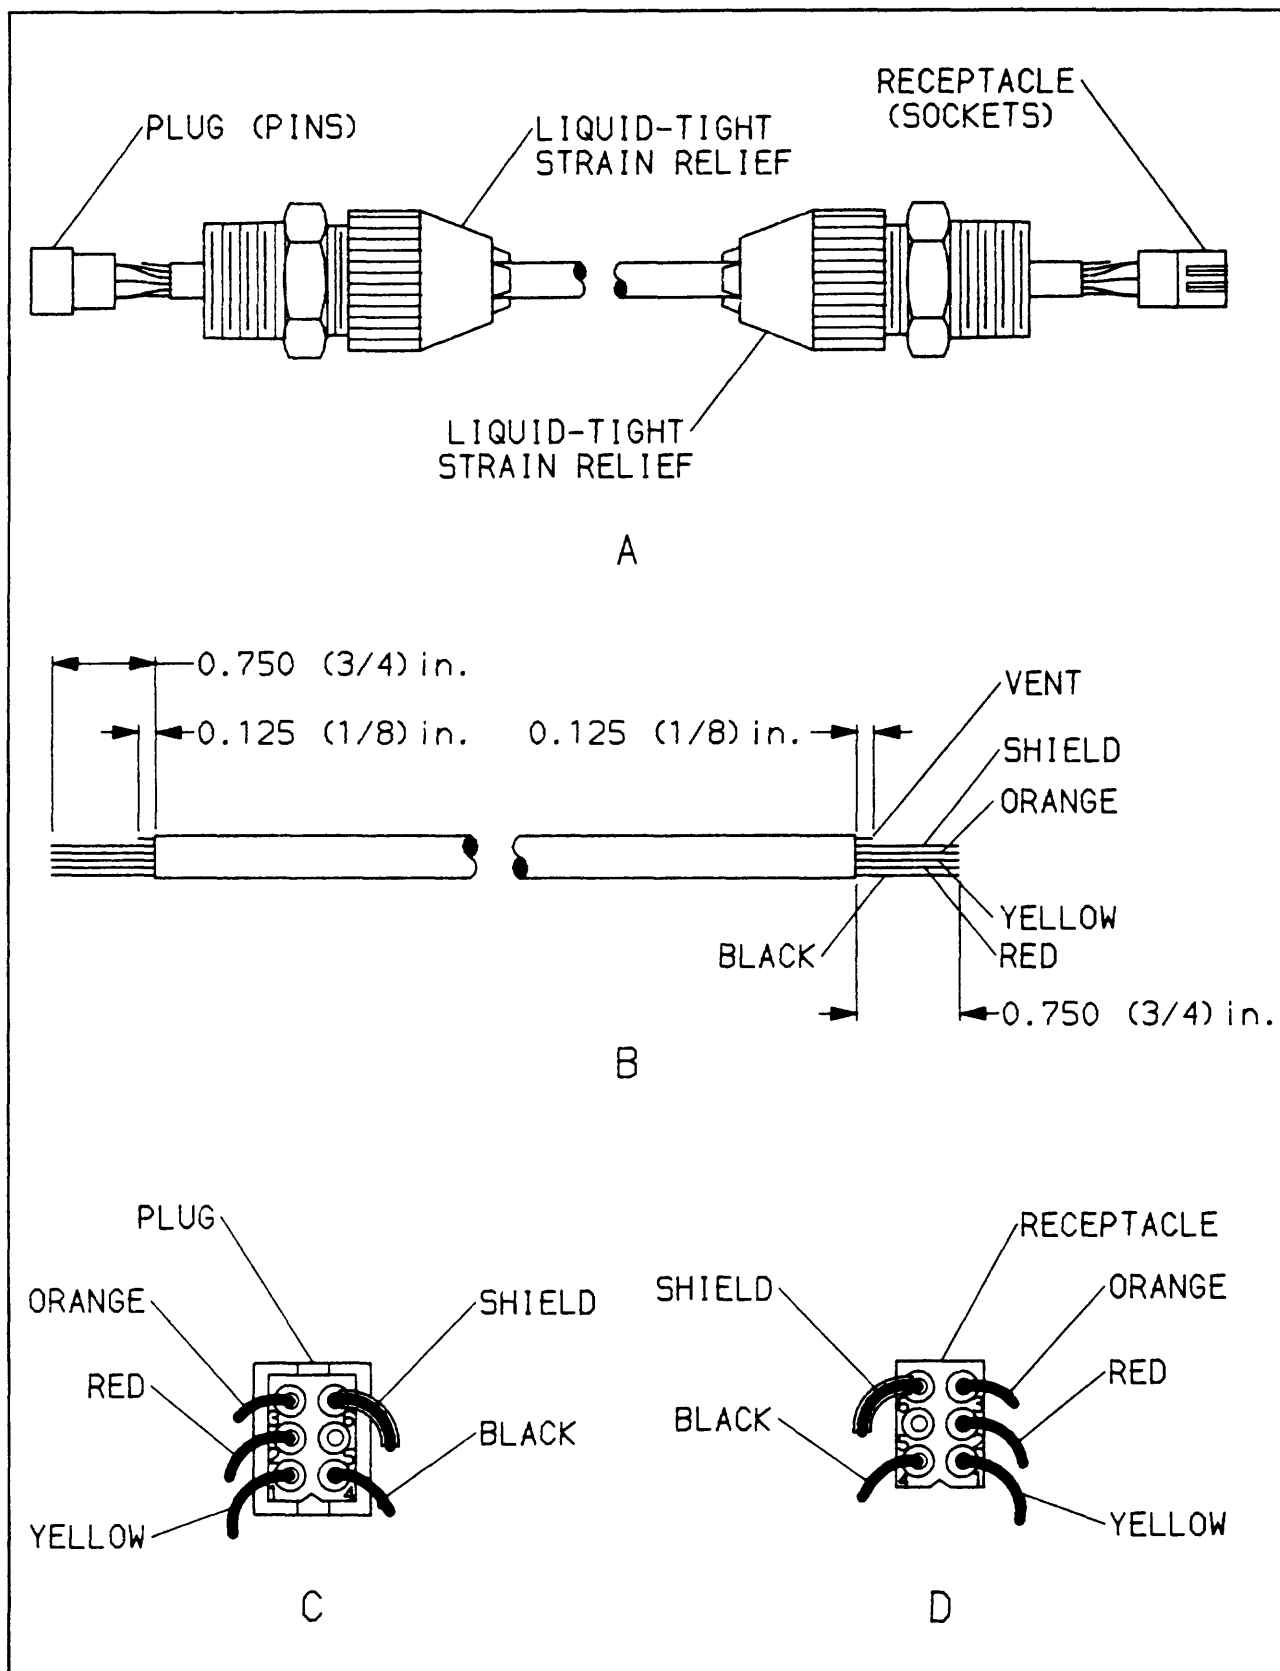
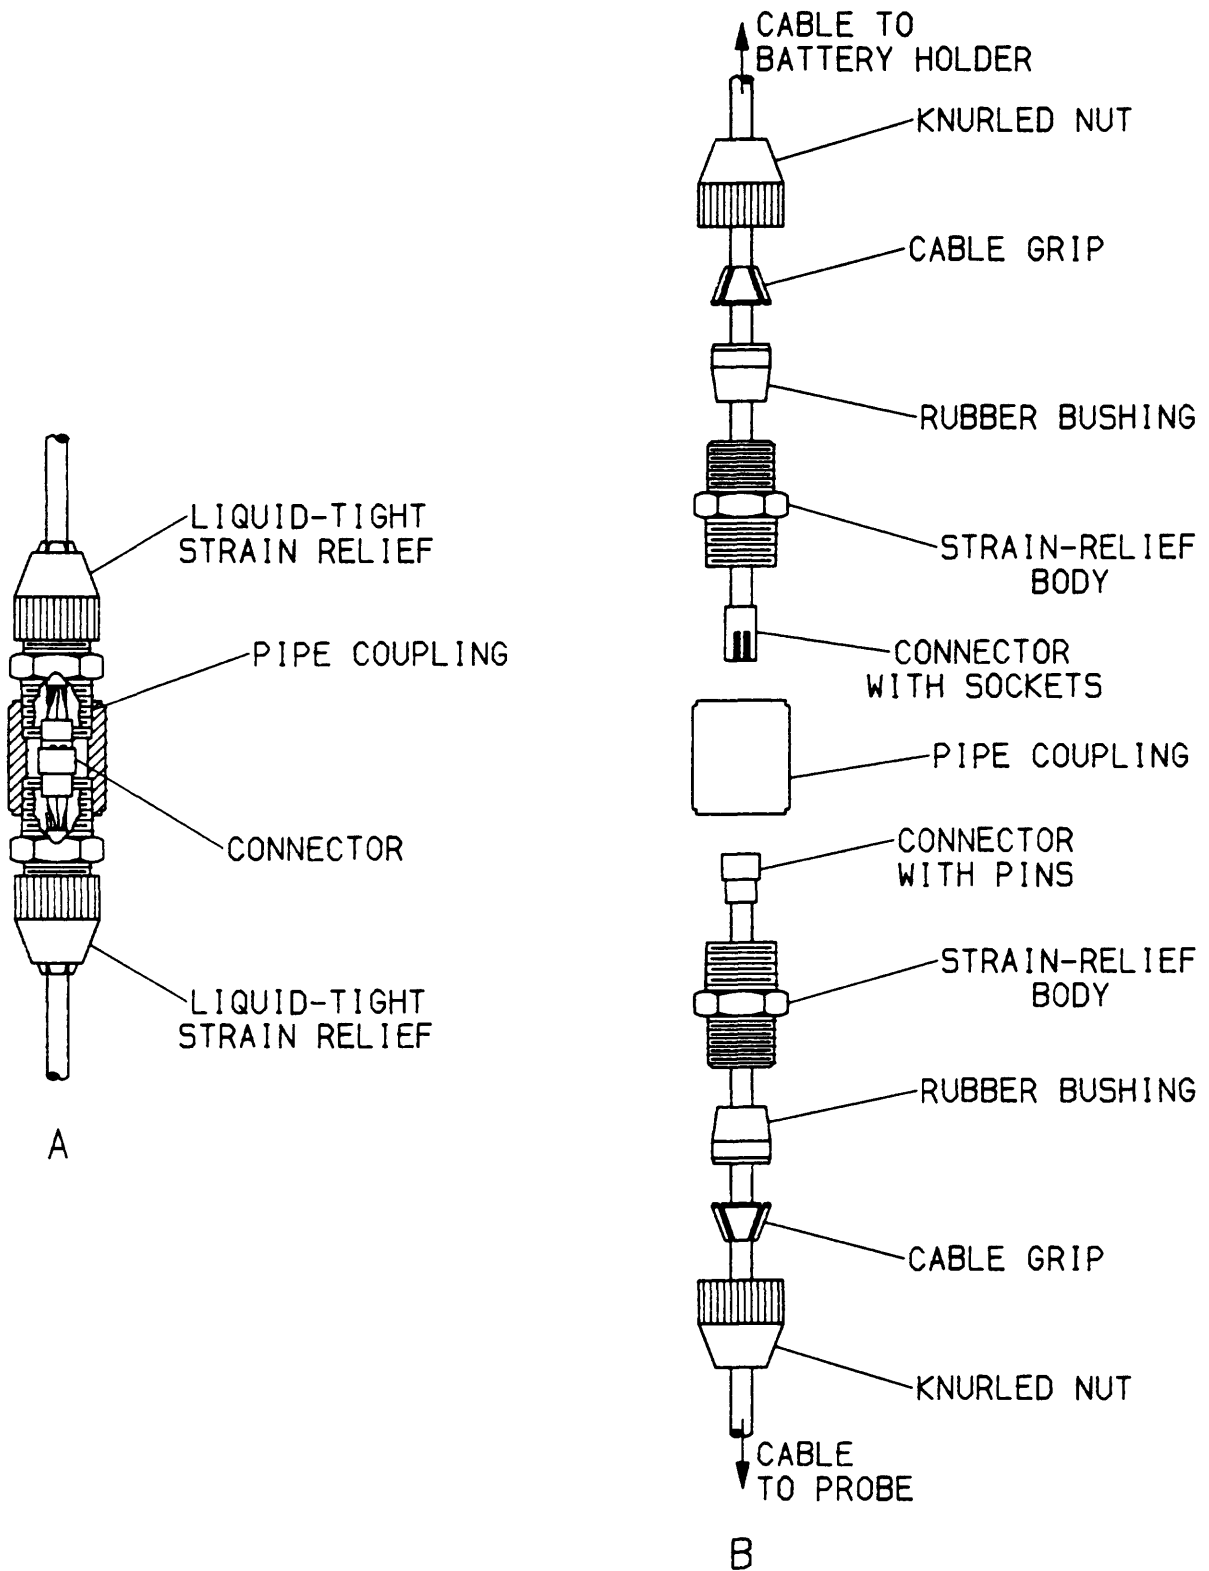

Figure 6.--Fabrication of a battery-pack cable.
Figure 7.--Assembled and disassembled splice joint.
Refer to figure 6 during the following assembly procedure:
2. Slide the two liquid-tight, strain-reliefs onto the cable as illustrated in figure 6-A. Be sure to slide all parts of each strain relief onto the cable with the proper orientation and in the proper order. Figure 7-B shows the parts of a strain-relief being placed onto a cable.
3. Using the diagonal cutters and the knife, strip the outer covering from the vented cable, leaving the wires and vent tube protruding to the lengths shown in figure 6-B. Use care to prevent damage to the insulation on the individual wires.
8. Insert the pins with the attached wires into the plug (Molex No. 02-06-2061) in the positions shown in figure 6-C. The plug has numbers written on the wire side, and the color code is: 1 yellow, 2 red, 3 orange, 4 black, 5 no connection, and 6 ground wire. After insertion, test, by pulling on each wire, to be sure each pin has locked into place. If a pin does not lock into place, use a small screwdriver to press the pin firmly into the plug. If a mistake is made, an extraction tool will be necessary to remove the pin in error, or the whole connector must be cut off and thrown away.
10. Insert the sockets with the attached wires into the receptacle (Molex No. 03-06-1062) in the positions shown in figure 6-D. The receptacle has numbers written on the wire side, and the color code is: 1 yellow, 2 red, 3 orange, 4 black, 5 no connection, and 6 ground wire. Test, by pulling on each wire, to be sure each socket has locked into place. If a socket does not lock into place, use a small screwdriver to press the socket firmly into the receptacle.
Refer to figure 7 while performing the following tasks:
Refer to figure 7 during the assembly operation.